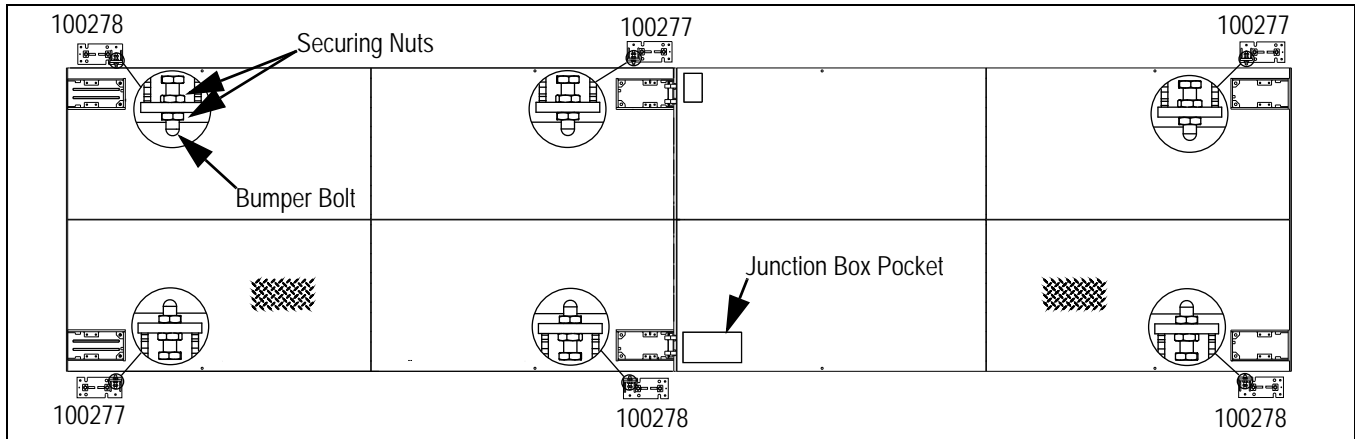

Figure 2. Mount Locations (for reference only)
2. Position one mount kit at each load cell pocket as shown in Figure 2. Also refer to the supplied drawings.